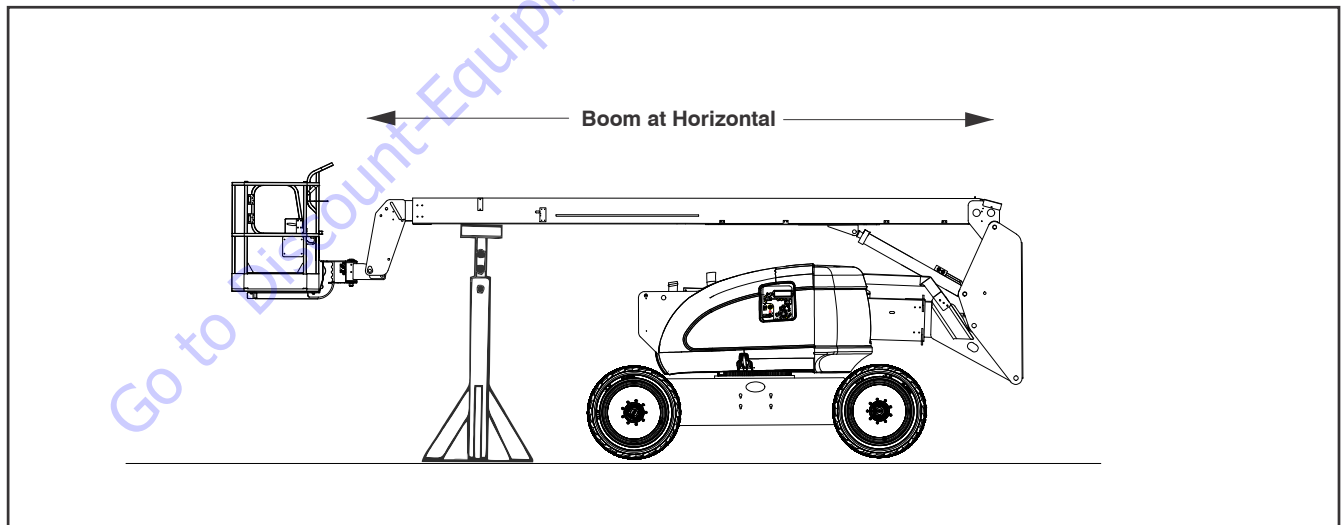

Figure 5-1. Boom Positioning and Support, Cylinder Repair
1. Place machine on flat and level surface with main boom horizontal. Extend telescope for access to cylinder rod pin (1).
2. Shut down engine. Support main boom basket end with a prop (2). See Figure 5-1. Boom Positioning and Support, Cylinder Repair.
3. Tag and disconnect hydraulic lines to telescope cylinder (1). Use suitable container to retain any residual hydraulic fluid. Cap hydraulic lines and ports.
4. Remove bolt and keeper pin from cylinder rod pin (3).
6. Remove four bolts (4), two blocks (5), and shims (6) from telescope cylinder barrel end support.
1. Place machine on flat and level surface. Start engine and place main boom horizontal. Shut down engine and prop boom. (See Figure 5-1. Boom Positioning and Support, Cylinder Repair.
2. Remove bolt and keeper pin from cylinder rod pin (7). Drive out pin using a suitable brass drift.
4. Disconnect, cap, and tag main boom lift cylinder (8) hydraulic lines and ports.
5. Remove barrel end attach pin (9) keeper pin and bolt. Drive out barrel end attach pin from upright using a suitable brass drift.